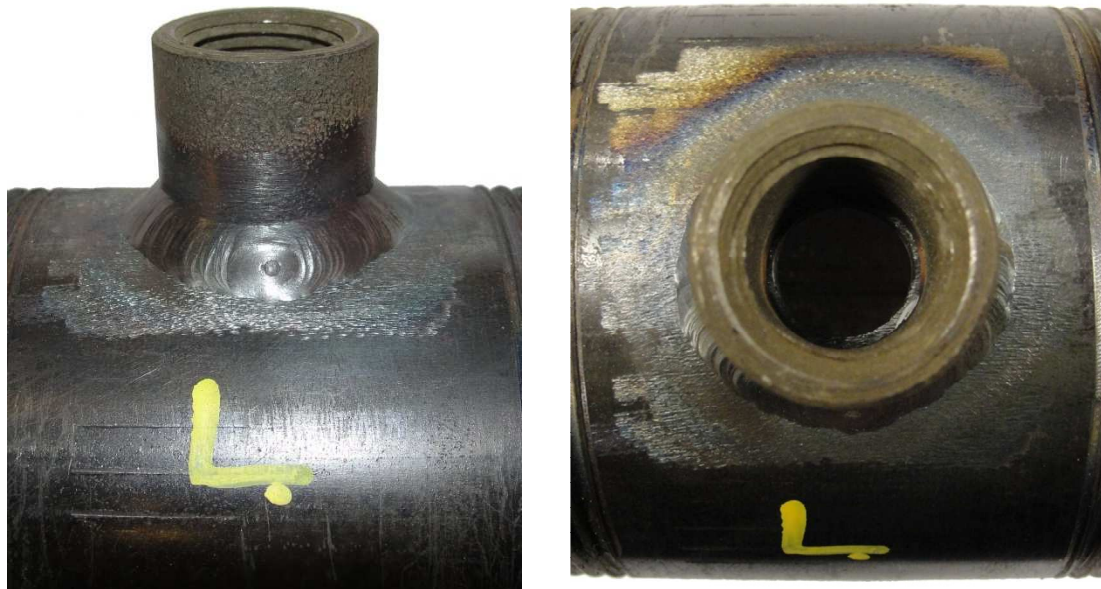

Figure 3: ½" NPT Half Coupling Welded to Pipe with ½" Hole Drilled Through Center
5. If a ½" NPT or larger half coupling is not available in a suitable location, one will need to be welded onto the pipe with a ½" or larger hole drilled through the pipe wall in the center of the coupling. After this is completed, the assembly should look like Figure 3.